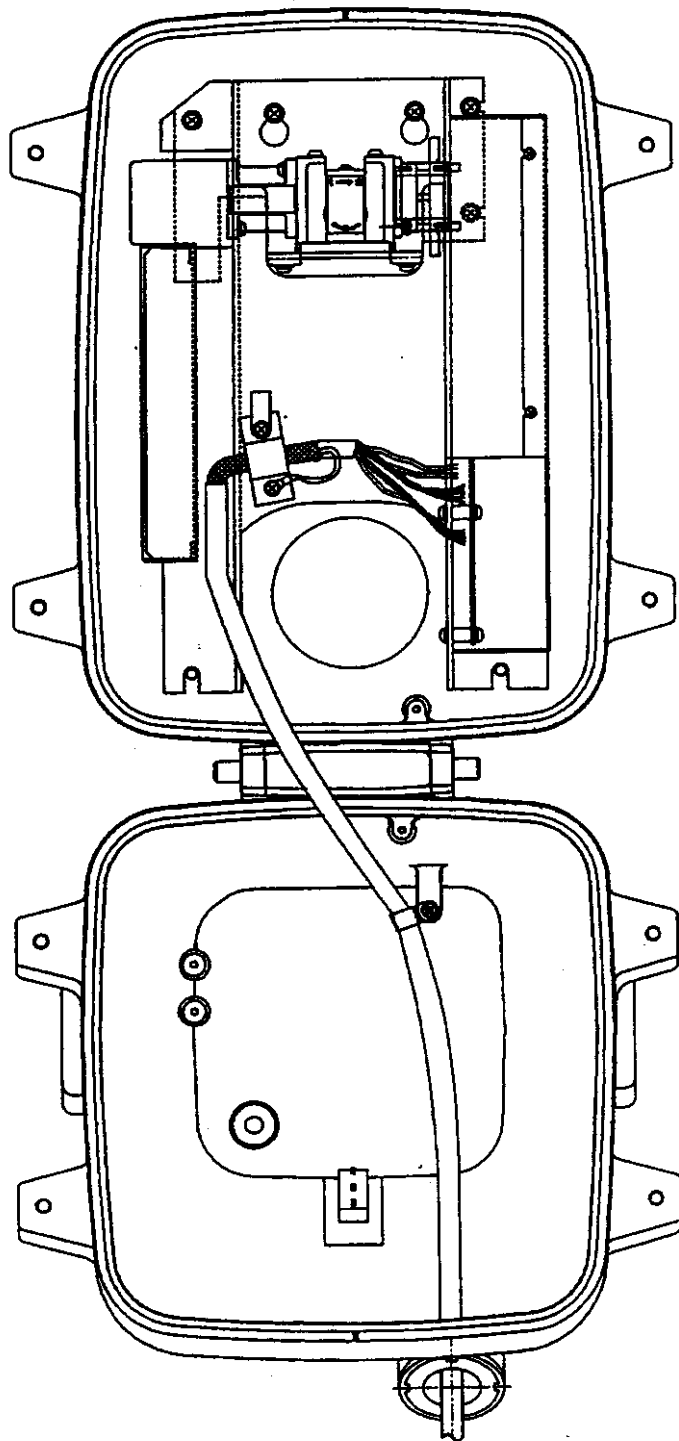

FIG. 4.3 ASSEMBLING PROCEDURE FOR CABLE
- 1) Four fixation bolts of the pedestal are loosened, and open. (Refer to FIG 4.3)
- 3) The cable with the connector is inserted from the cable ground, and fix firmly with the screw of the attachment and the suppression metal fittings so that the shield of the cable may come in contact with the body. (Refer to FIG. 4.3)